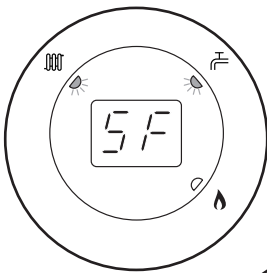

Fig. 67
4. The display will now alternate between 'SF' and the current boiler temperature and both green LEDs will flash (Figs. 67 & 68).